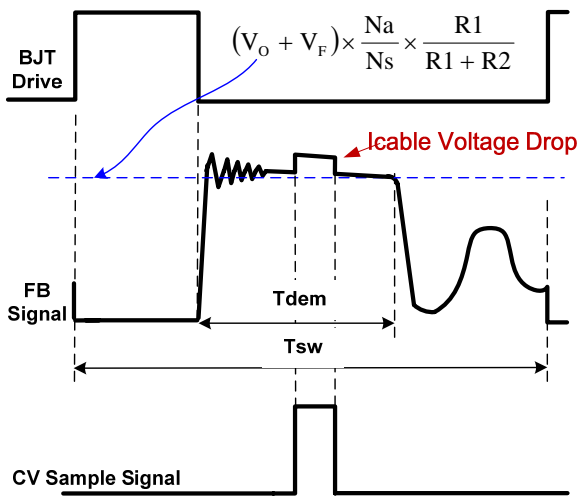

Fig.2
In primary side control, the output voltage is sensed on the auxiliary winding during the transfer of transformer energy to the secondary. Fig.2 illustrates the CV sampling signal timing waveform in DP2525. As shown in Fig.2, it is clear that there is a down slope representing a decreasing total rectifier  $V_f$  and its voltage drop as the secondary current decreases to zero. To achieve an accurate representation of the secondary output voltage on the auxiliary winding, the CV sampling signal blocks the leakage inductance reset and ringing. When the CV sampling process is over, the internal sample/hold (S&H) circuit captures the error signal and amplifies it through the internal Error Amplifier (EA). The output of EA is sent to the Primary Side Constant Voltage Modulator (PSR-CVM) for CV control. The internal reference voltage for EA is trimmed to 2V with high accuracy.
During the CV sampling process, an internal variable current source is flowing to FB pin for Cable Drop Compensation (CDC). Thus, there is a step at FB pin in the transformer demagnetization process, as shown in Fig.2. Fig.2 also illustrates the equation for “demagnetization plateau”, where  $V_o$  and  $V_f$  is the output voltage and diode forward voltage;  $R_1$  and  $R_2$  is the resistor divider connected from the auxiliary winding to FB Pin,  $N_s$  and  $N_a$  are secondary winding and auxiliary winding respectively.